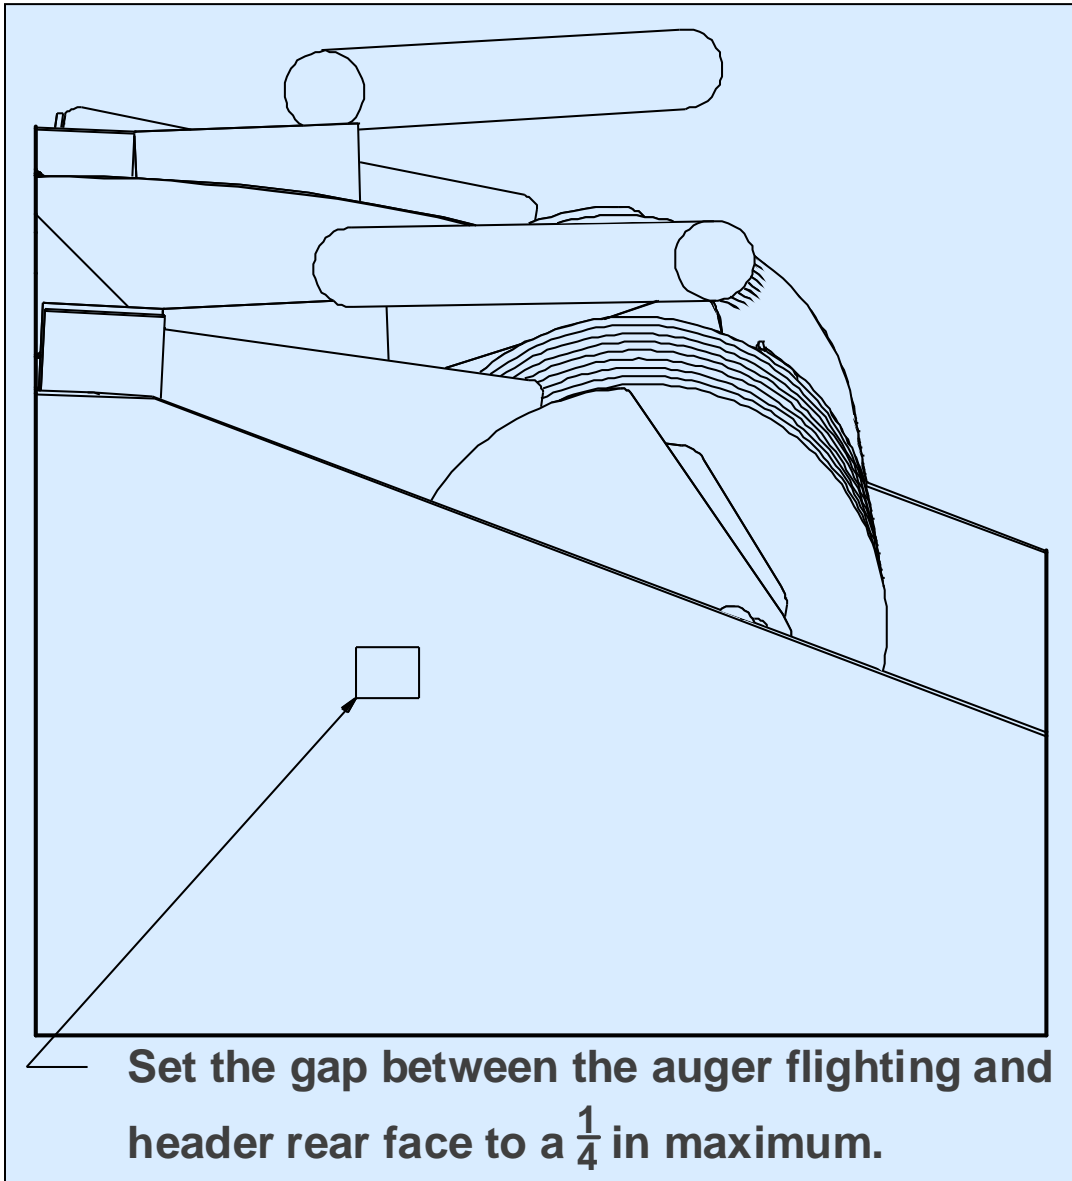

FIGURE 2 RED TEMPLATE (ASM #408246) IN PLACE AGAINST HEADER REAR FACE (END VIEW)
3. Figure 2 Red Template (ASM #408246) in place against Header rear face (End View). Bolt the red template to the left hand end auger mount so that the holes are in the center of the slots of the bearing holder. Rotate the mount around the header main frame until the red template touches the back of header, rotate back 1/4". This determines the rotation around the tube using the template shown on the drawing in bright red-the template simulates the 12" outside diameter of the auger plus 1/4" space. Tack weld on the left end blue mount. The outer vertical face of the blue mount is 5.5 inches from the inside end of the header on 30 ft and 4.8 inches on the 36 foot wide unit. .